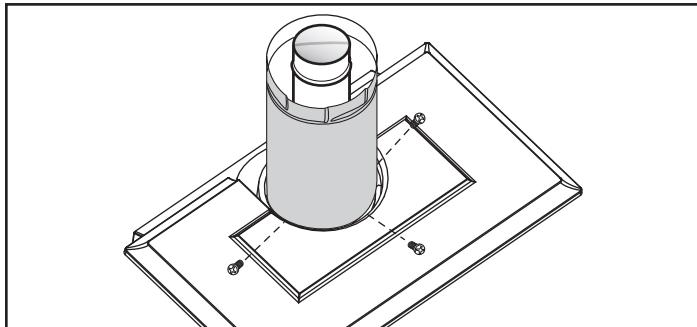

Figure 21 - Simpson DuraVent - install outer adapter pipe.
- Install the Outer Adapter Pipe:** Apply a 1/4" bead of cement around the outside surface, about one inch from the crimped end. (Figure 21) Orient the vertical seam to the rear, and insert the crimped end of the outer pipe into the flue collar. Fasten with three sheet metal screws provided.